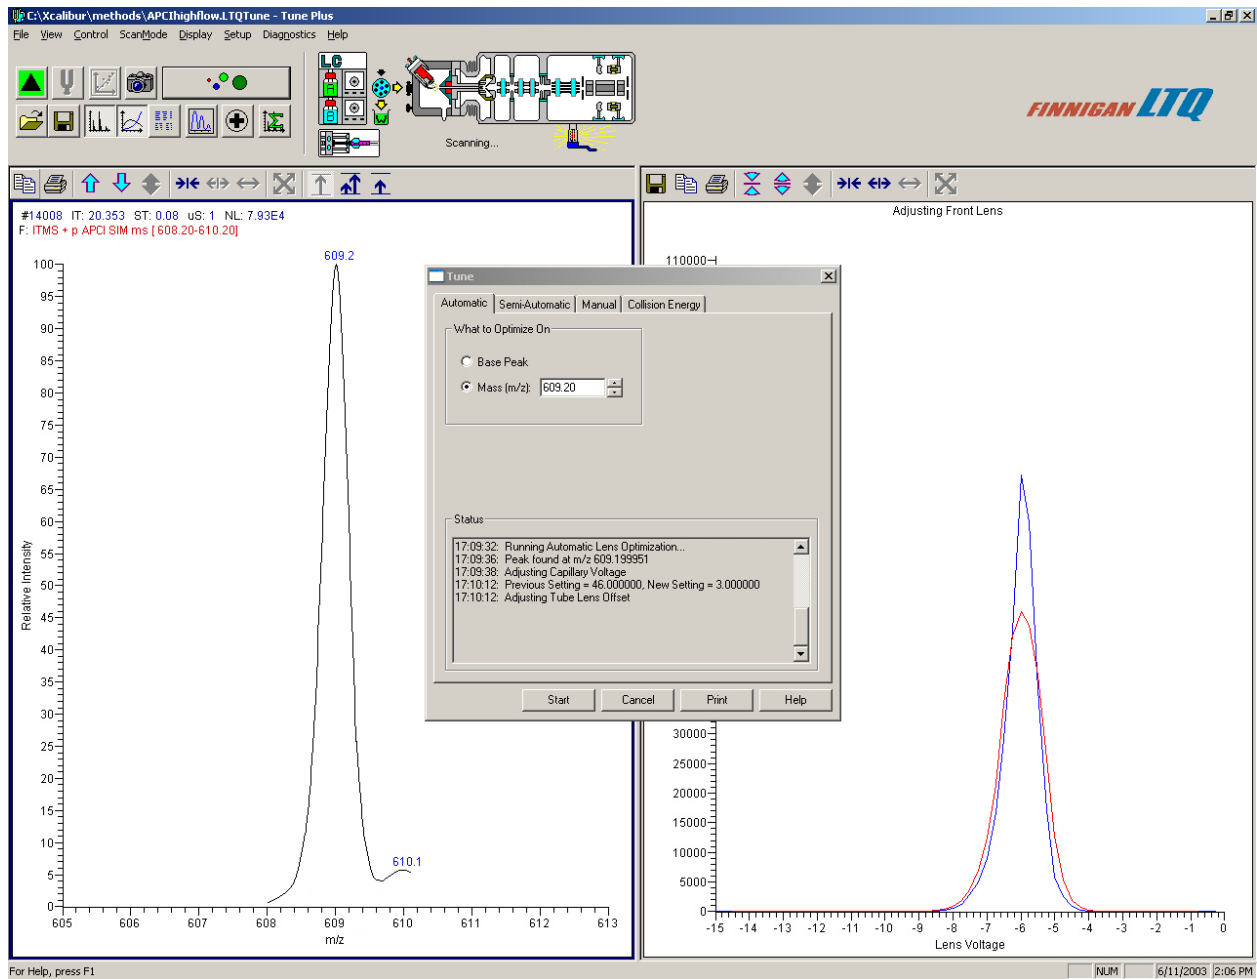

Figure 7-6. Tune Plus window with the Tune dialog box, showing the Automatic tuning page
7. Observe the Tune Plus window and the Tune dialog box. While automatic tuning is in progress, the Finnigan LTQ MS detector displays various tests in the Spectrum and Graph views in the Tune Plus window and displays various messages in the Status group box in the Tune dialog box. Your Tune Plus window should now look similar to the one shown in Figure 7-6.